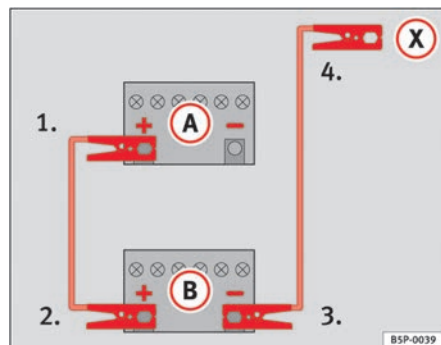

Fig. 225 How to connect the jump leads
⇒ fig. 225 (A) shows the flat battery and (B) the charged battery.
1. Connect one end of the red jump lead to the positive ⇒ fig. 225 (+) terminal of the vehicle with the flat battery ⇒ ⚠.
4. Connect the other end of the black jump lead (X) to a solid metal component which is bolted on to the engine block, or onto the engine block itself of the vehicle with the flat battery. Do not connect it to a point near the battery ⇒ ⚠.